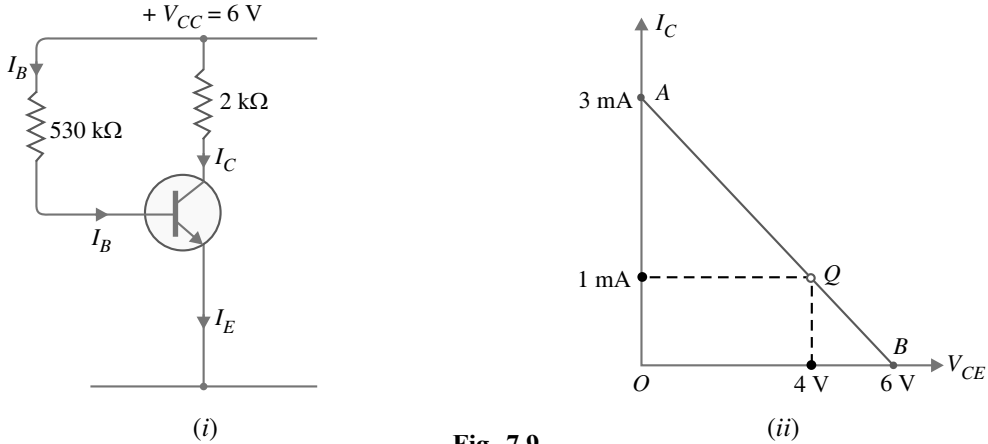

Fig. 7.9
When  $I_C = 0$ ,  $V_{CE} = V_{CC} = 6 \text{ V}$ . This locates the first point *B* ( $OB = 6 \text{ V}$ ) of the load line on collector-emitter voltage axis as shown in Fig. 7.9 (ii).
When  $V_{CE} = 0$ ,  $I_C = V_{CC}/R_C = 6\text{V}/2\text{ k}\Omega = 3\text{ mA}$ . This locates the second point  $A$  ( $OA = 3\text{ mA}$ ) of the load line on the collector current axis. By joining points  $A$  and  $B$ , d.c. load line  $AB$  is constructed [See Fig. 7.9 (ii)].
**Operating point  $Q$ .** As it is a silicon transistor, therefore,  $V_{BE} = 0.7\text{ V}$ . Referring to Fig. 7.9 (i), it is clear that :